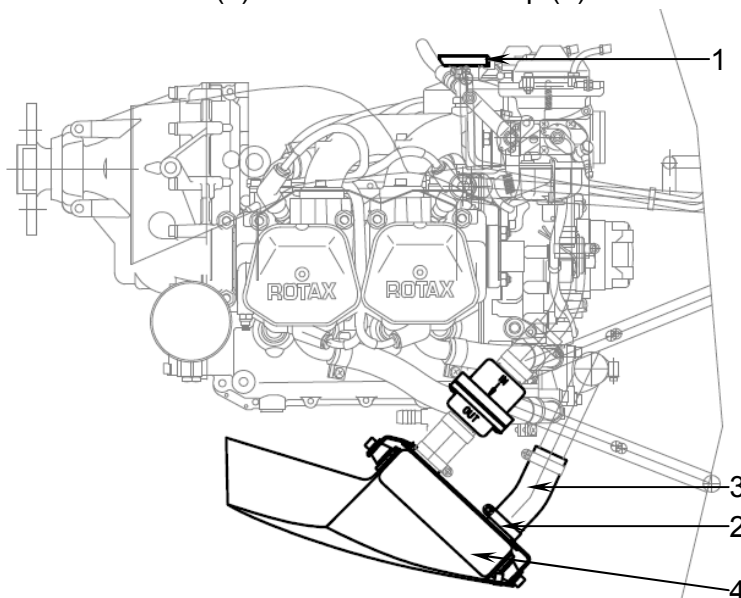

Figure 1
2. Drain the coolant (Figure 1).